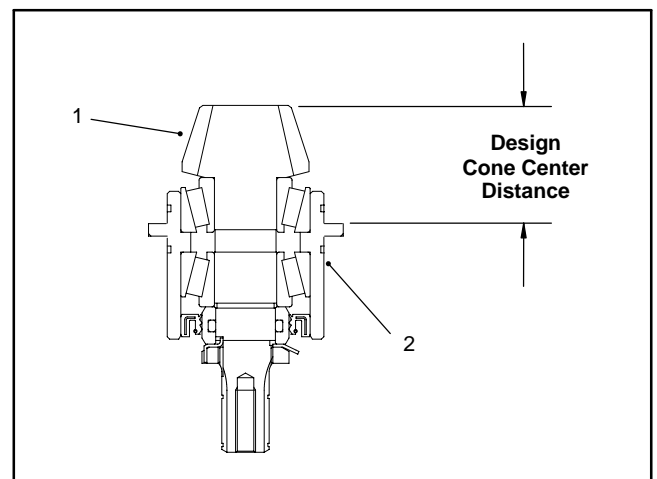

Figure 32
8. Use a depth gauge to measure the distance from the end face of the input shaft/pinion gear to the mating surface of the bearing case. Subtract the "Design Cone Center Distance" from this distance to determine initial shim thickness (Fig. 32).